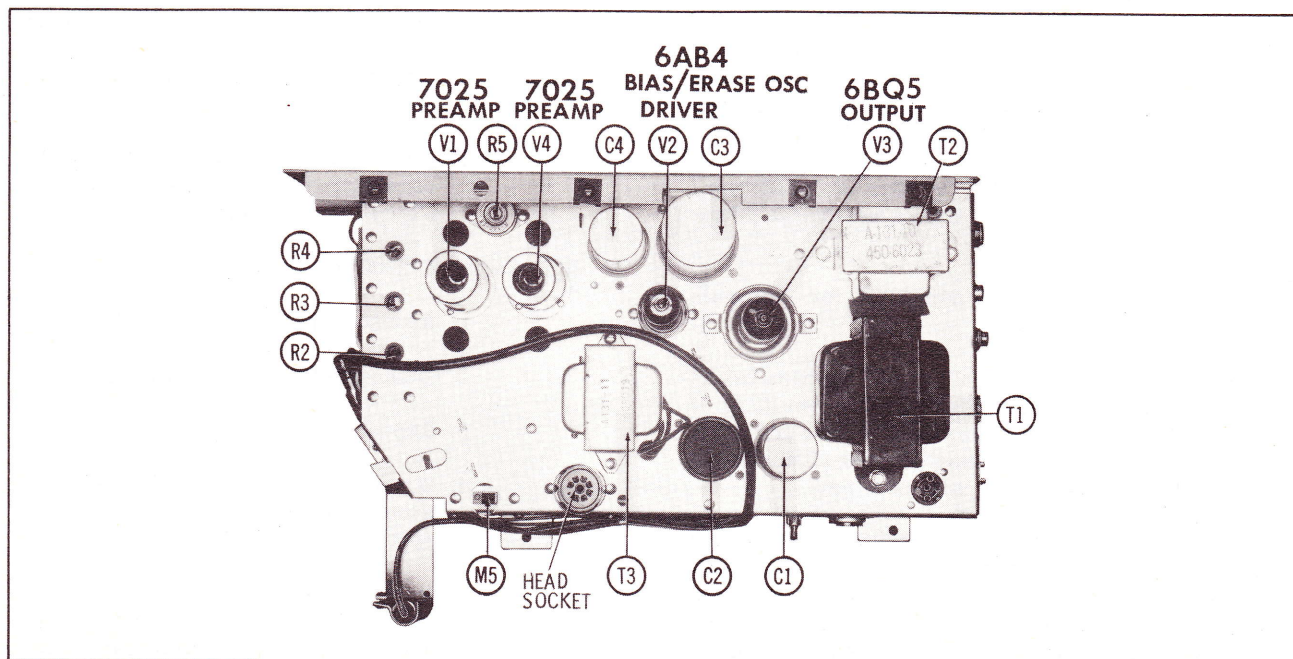

Fig. 21. Top View of Amplifier Chassis
4. Wrap one end of the bare hook-up wire around pin # 4 of head plug and reinsert plug into head socket (Fig. 21).